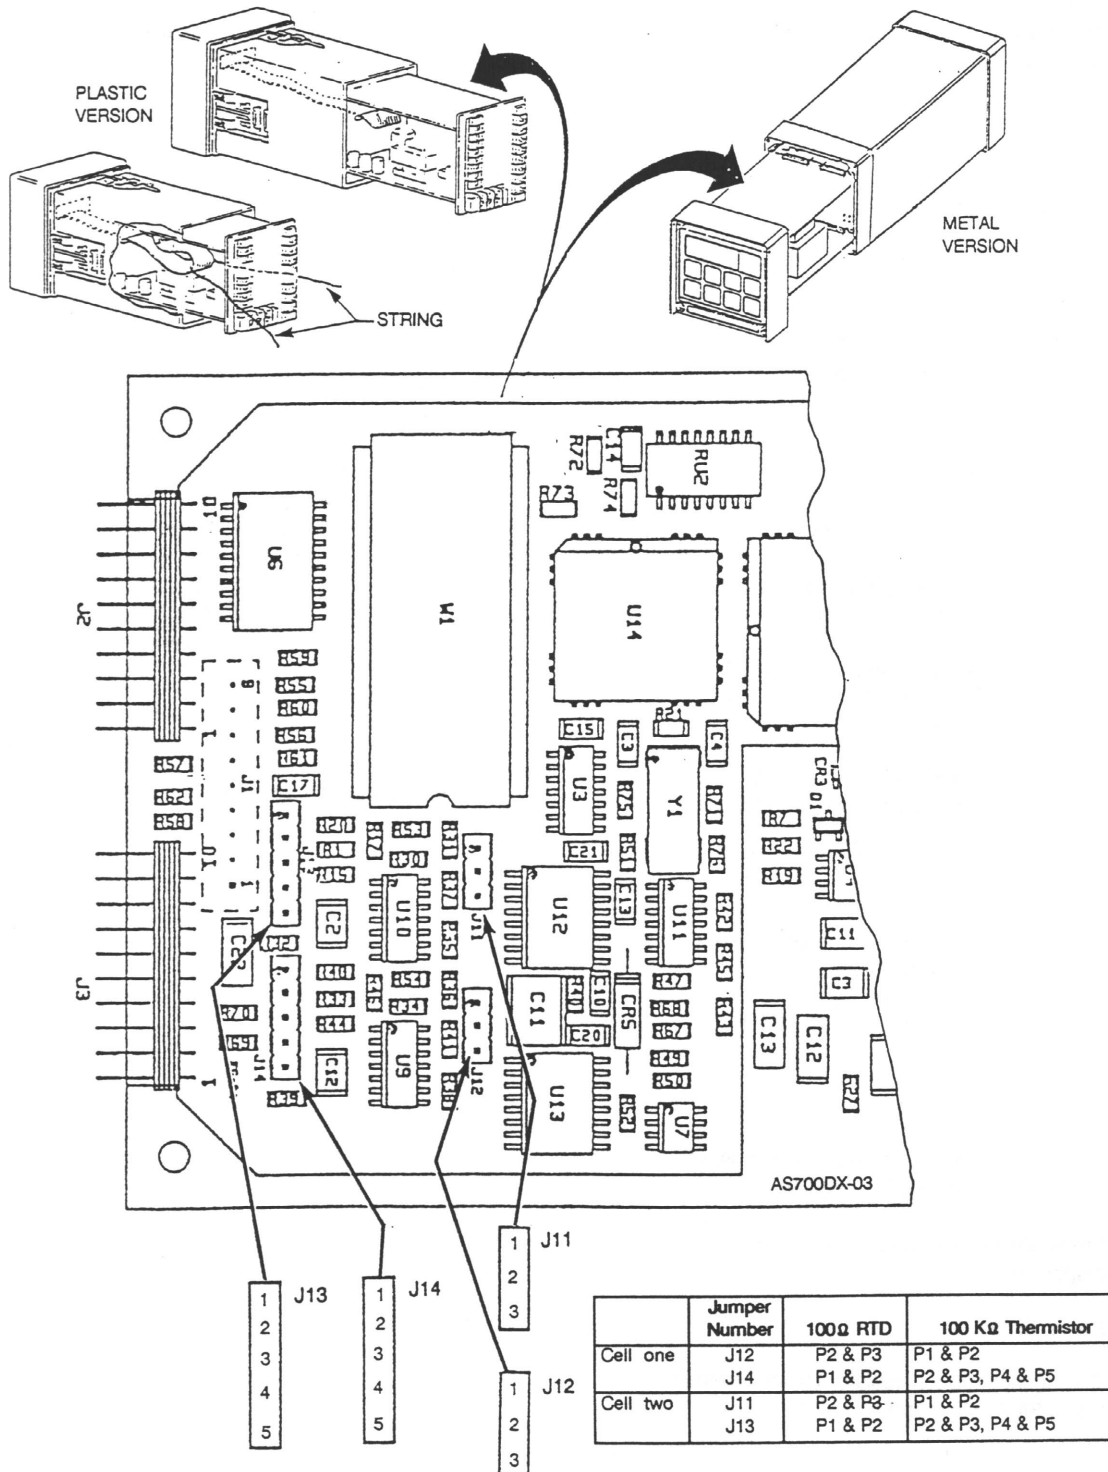

Figure 14. Jumpers for Temperature Compensation
4. Refer to Figure 14 to identify jumper locations.
On the plastic version, a string must be rigged through the loop in the ribbon cable such that when the board assembly is slid into the housing, the string/ribbon cable may be pulled back simultaneously, thus preventing damage to the cable. See Figure 14.